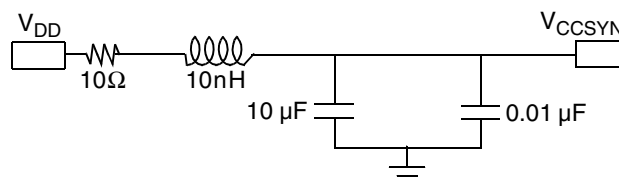

**Figure 4-1.** Core Power Supply Decoupling
**Figure 4-1** shows the recommended power decoupling circuit for the core power supply. The voltage regulator and the decoupling capacitors should supply the required device current without any drop in voltage on the device pins. The voltage on the package pins should not drop below the minimum specified voltage level even for a very short spikes. This can be achieved by using the following guidelines:
- Decouple the supply using low-ESR capacitors mounted as close as possible to the socket. **Figure 4-1** shows three capacitors in parallel to reduce the resistance. Three capacitors is a recommended minimum number. If possible, mount at least one of the capacitors directly below the MSC8126 device.